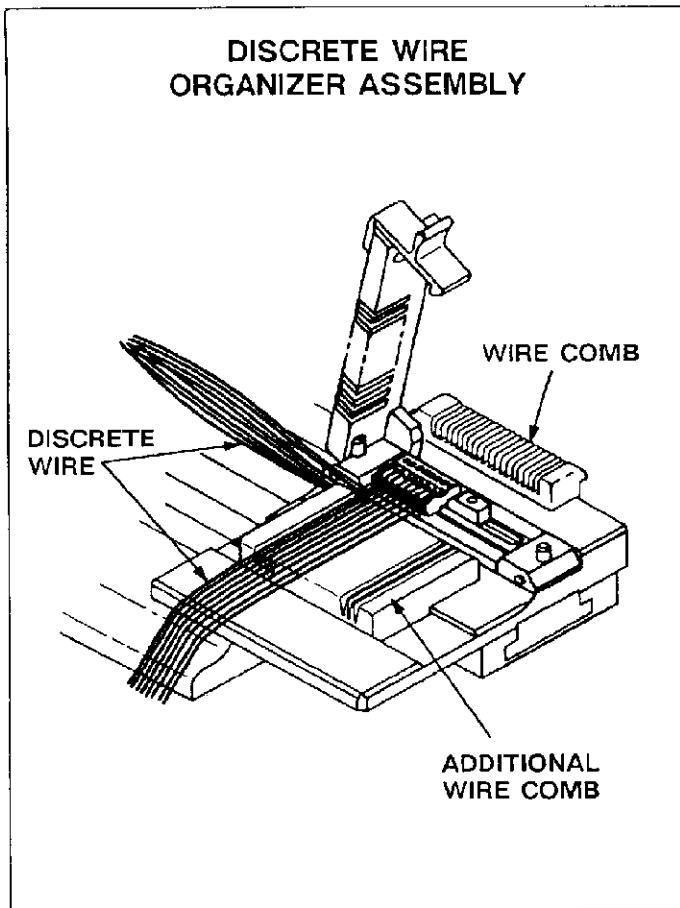
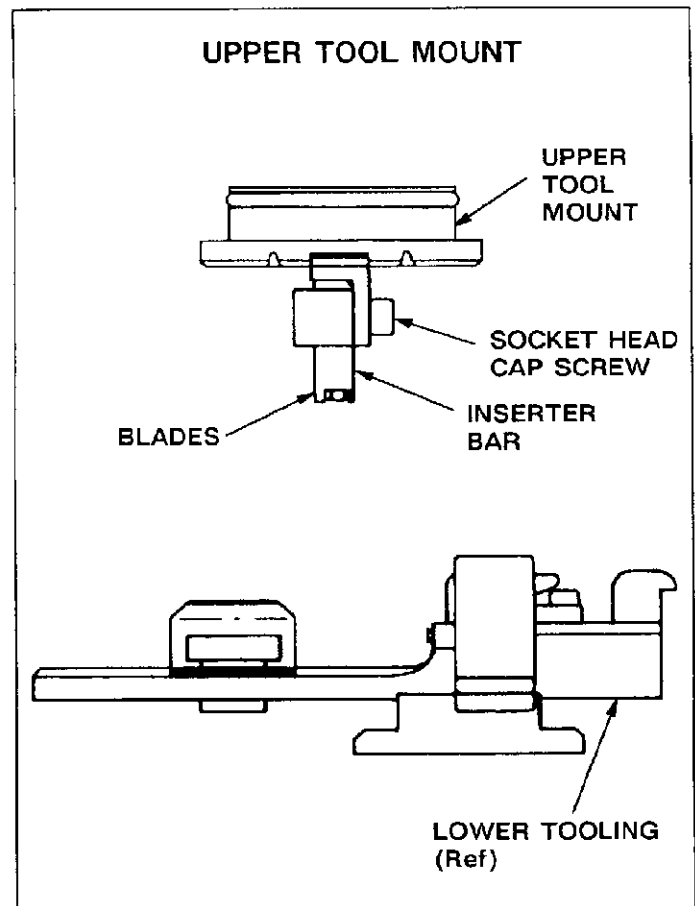

Fig. 2
Fig. 3
The discrete wire organizer (Figure 2) features a 25-position wire comb and a socket head cap screw. The upper tool mount (Figure 3) features a tool mount with an O-Ring.
#### A. Discrete Wire Organizer Assembly (Figure 2)
#### B. Upper Tool Mount (Figure 3)
3. Mount the inserter tooling assembly to the pneumatic upper tool mount as shown in Figure 3.
4. Mount the upper tool mount to the pneumatic frame assembly using the four screws that were removed in Step 1. Make sure the heads of the inserter bar screws are facing the direction shown in Figure 3.